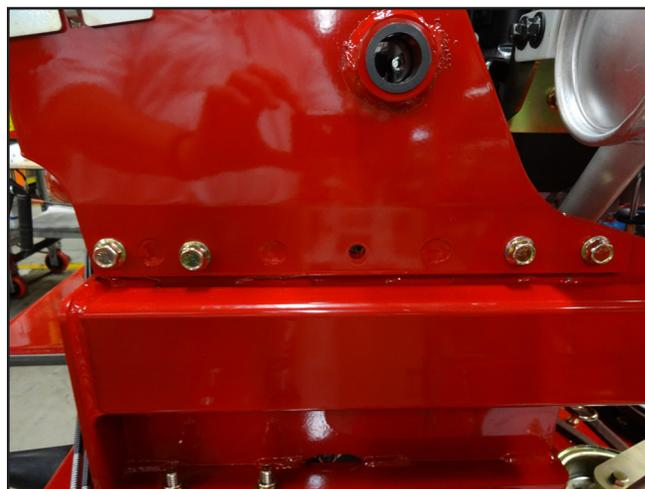

Figure 17
2. Install the 4 bolts and nuts to secure the tower to the frame (Figure 17).